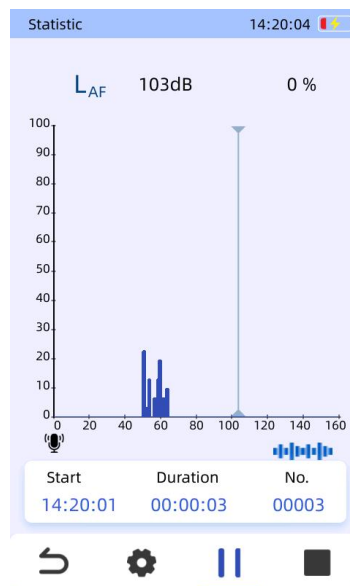

Fig 6.24
- a. Manual Mode: The user manually starts and stops the measurement from the main interface button area. Figure 6.24 shows that in manual mode, the testing is entirely controlled by user actions, making any time settings in the testing mode configuration ineffective and uneditable.